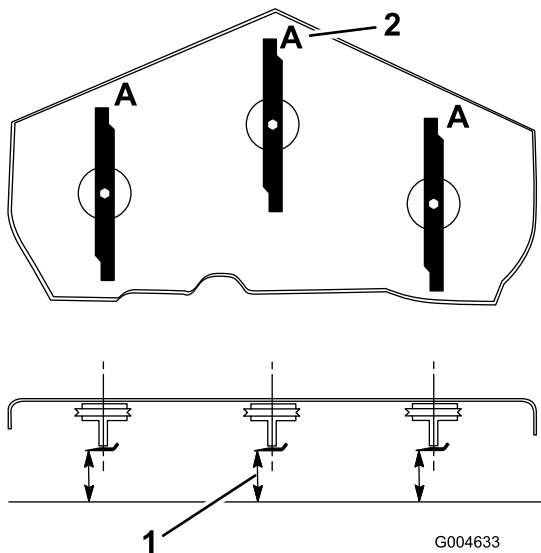

Figure 74
3. Rotate the blades until the ends face forward and backward (Figure 74). Measure from a level surface to the cutting edge, position A, of the blades (Figure 74). Note this dimension.